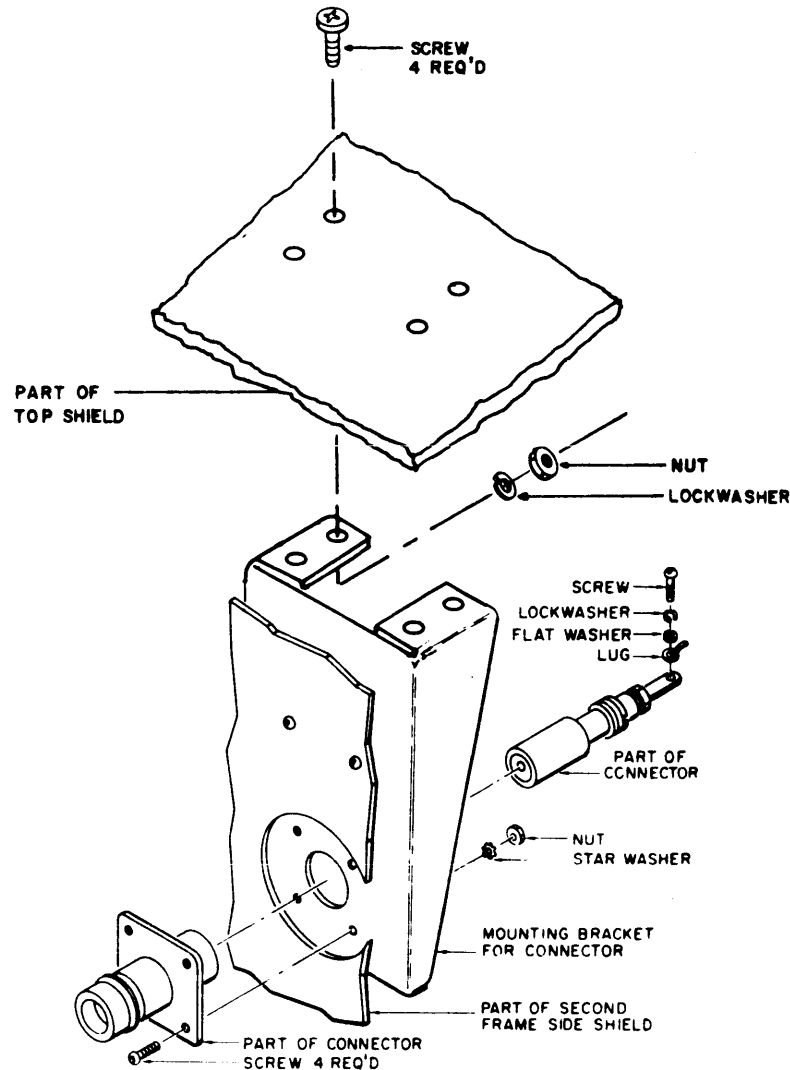

Figure 2-9. Output Jack, Rear View
(22) Using hardware from crate 1 (bag-output jack bracket mounting kit), position and mount (referring to figure 2-9) the output jack J1200 with mounting bracket (contained in crate 1) inside the second frame, toward the upper right rear side. Connect cables as indicated in figure 7-1.